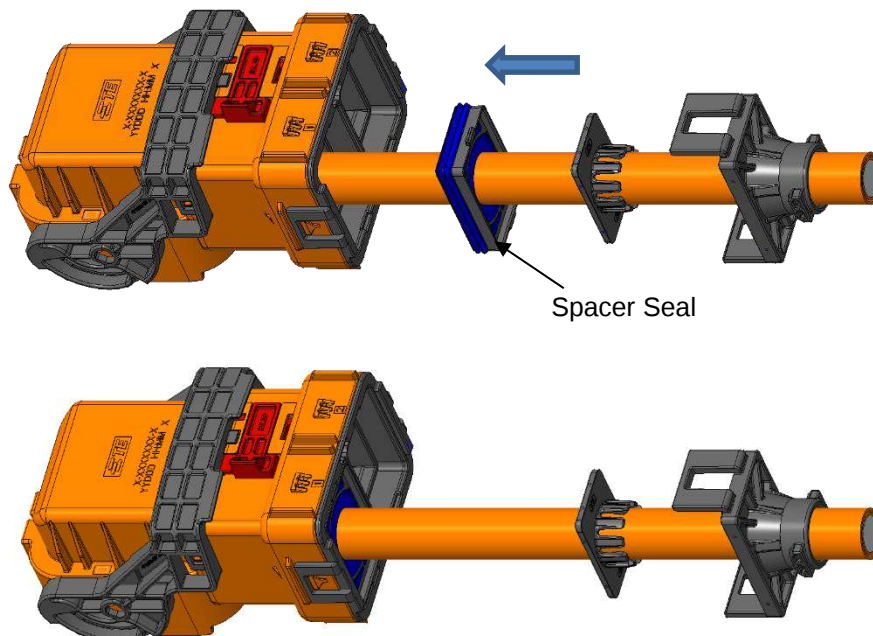

Figure 12: Spacer Seal Assembly
10. Slide the spacer seal forward on the cable and into the cable exit end of the plug sub-assembly until it stops against the inside of the plug sub-assembly as shown in Figure 12.